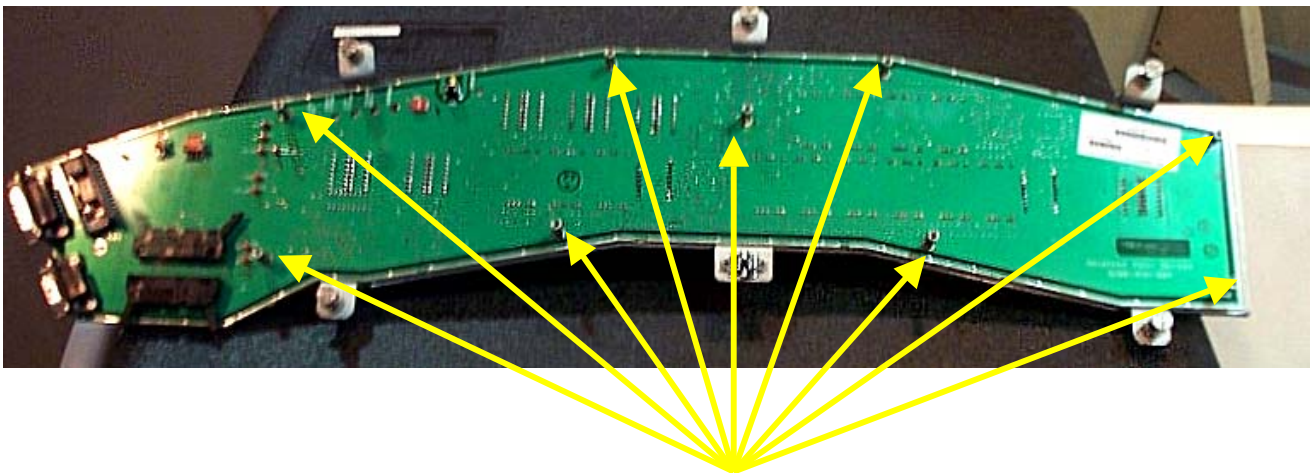

Figure 2. Remove Standoffs
6. Referring to Figure 2, remove the nine (9) standoffs.